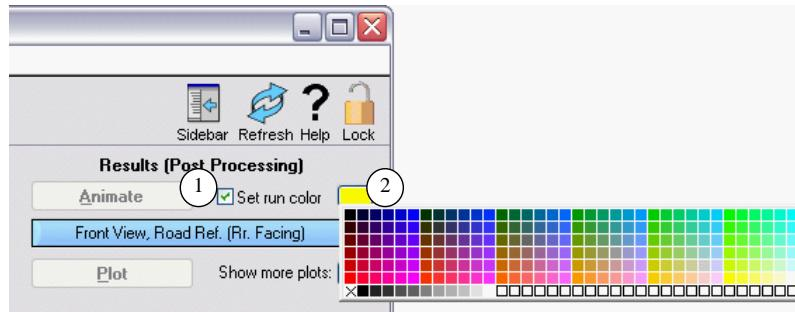

Figure 24. Color selector palette.
13. Press the color selector button ② to display a color palette (Figure 24). For example, choose yellow (the baseline vehicle was blue).